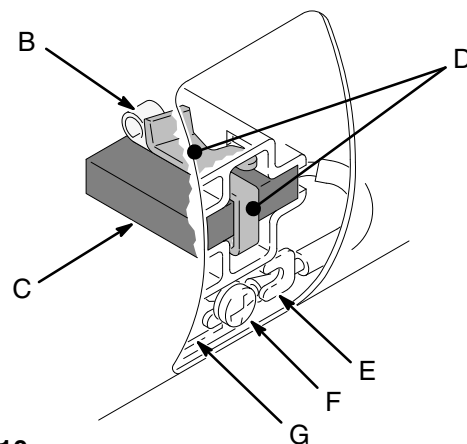

Fig. 10
3. Loosen the terminal screw (F). Pull the brush lead (G) away, leaving the motor lead in place. Remove the brush (C) and spring (B). See Fig 10.